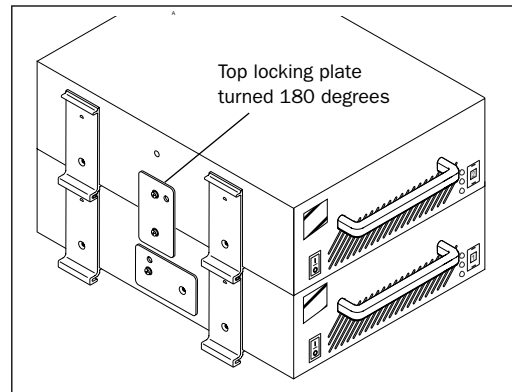

Figure 7. Secured DigiDrive Enclosures
- 6 Replace the screw into the top hole in the bottom drive so that the top and bottom drives are secured to each other (see Figure 7).